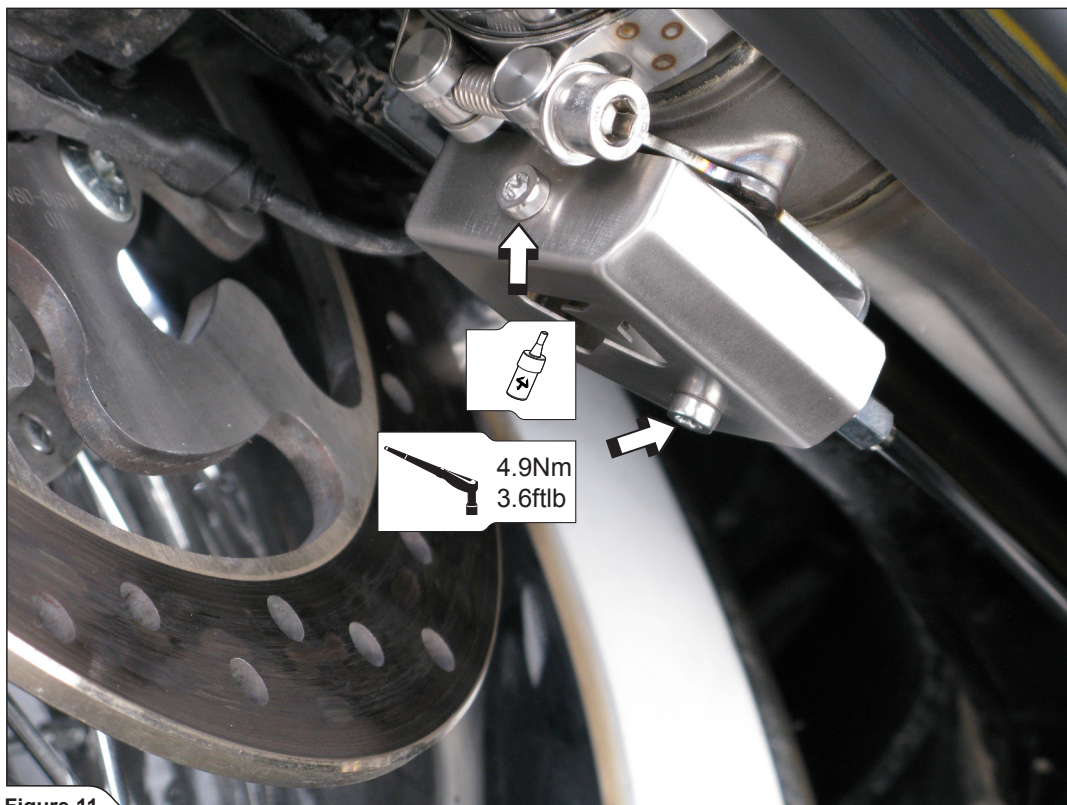

Figure 11
9. Assemble the valve covers onto the both exhaust valves (Figure 11).